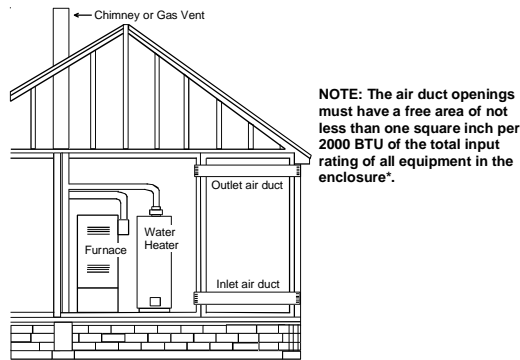

Figure A.9.3.3.1(2) All Combustion Air From Outdoors through Horizontal Ducts.
9.3.3.2* One Permanent Opening Method. One permanent opening, commencing within 12 in. (300 mm) of the top of the enclosure, shall be provided. The appliance shall have clearances of at least 1 in. (25 mm) from the sides and back and 6 in. (150 mm) from the front of the appliance. The opening shall directly communicate with the outdoors or shall communicate through a vertical or horizontal duct to the outdoors or spaces that freely communicate with the outdoors (see Figure A.9.3.3.2) and shall have a minimum free area of the following: